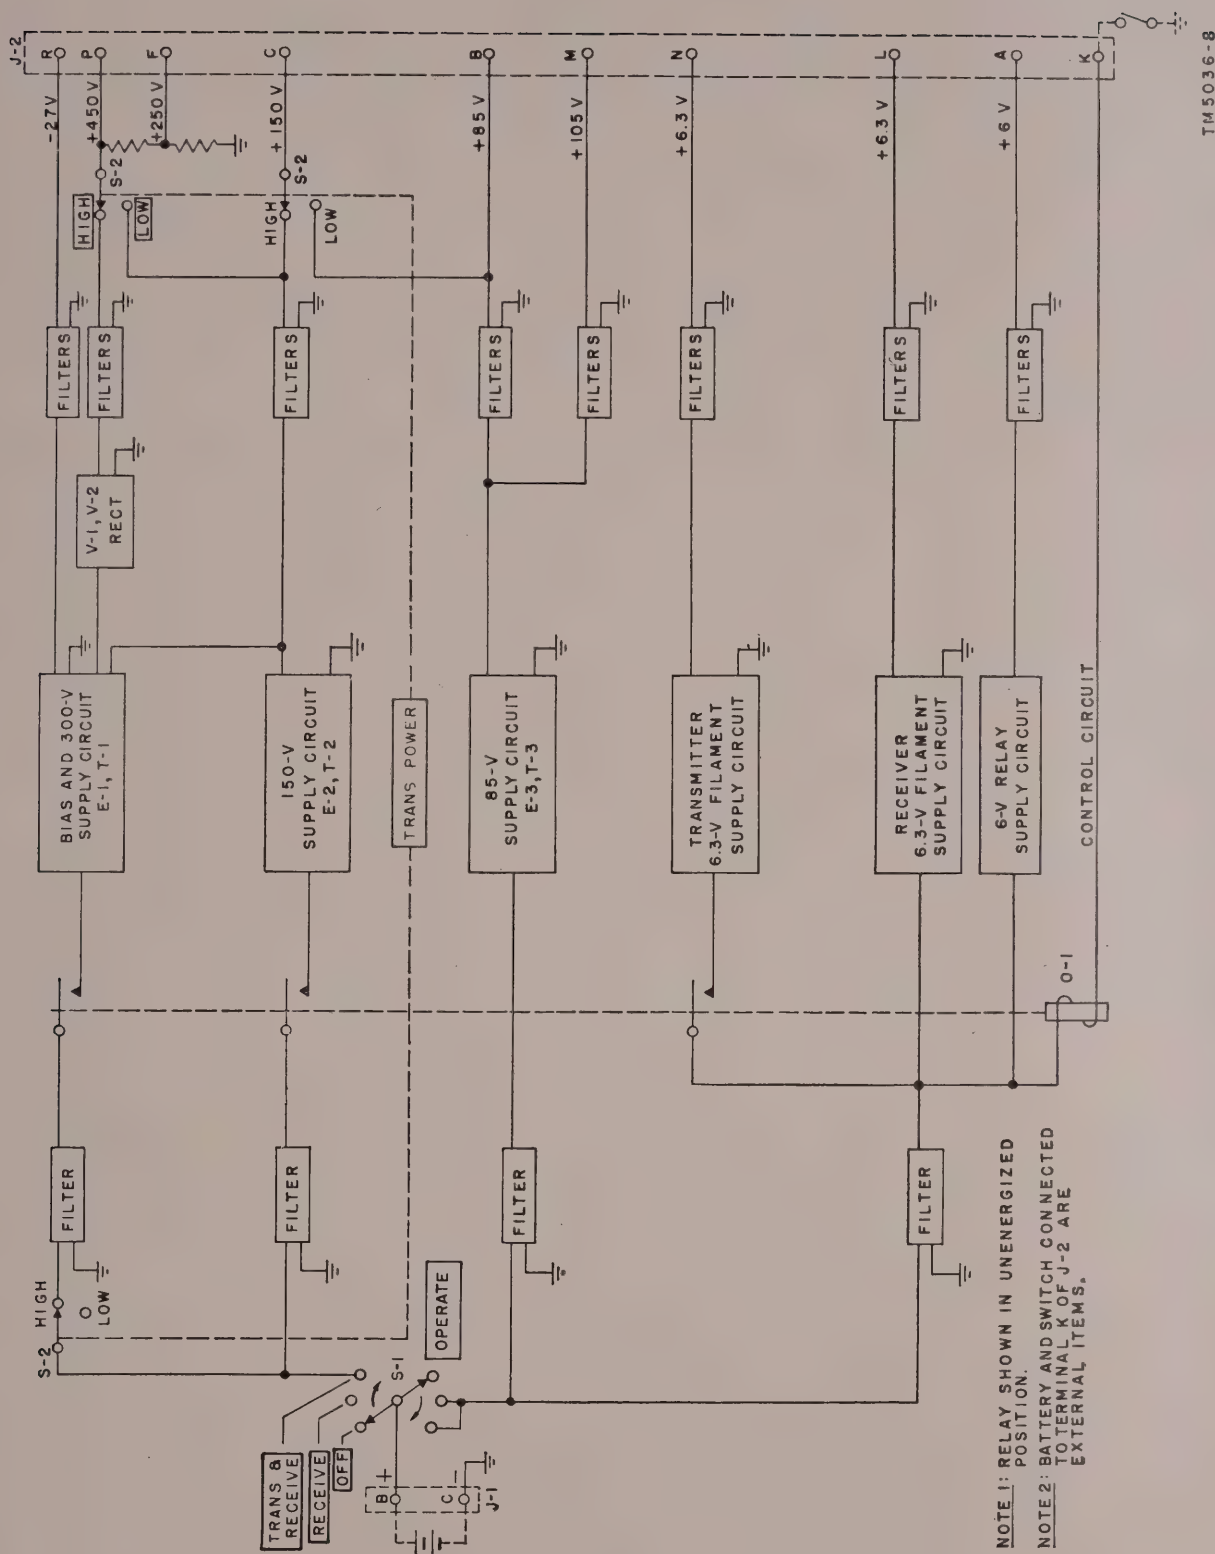

Figure 39. Receiver-transmitter power supply, block diagram.
Note. For circuit details of the receiver-transmitter power supply, refer to figures 74 and 75. A block diagram of the receiver-transmitter power supply is shown in figure 39.
The discussion of unit theory is limited to block diagram analyses of the major units. Although the maintenance information included in this manual is at an organizational level only, familiarity with the block diagrams of the units should be helpful in trouble-shooting. A knowledge of which tubes are receiving tubes and which tubes are transmitting tubes, for example, will aid in the replacement of parts for which the operator has running spares. The block diagrams are shown in figures 39, 40, and 41. Complete schematic diagrams for all units are also included (figs. 67 through 81) as additional information for maintenance personnel.
82. Receiver-Transmitter Power Supply (figs. 39, 74, and 75)
a. Figure 39 is a functional block diagram of Power Supply PP-109/GR or Power Supply